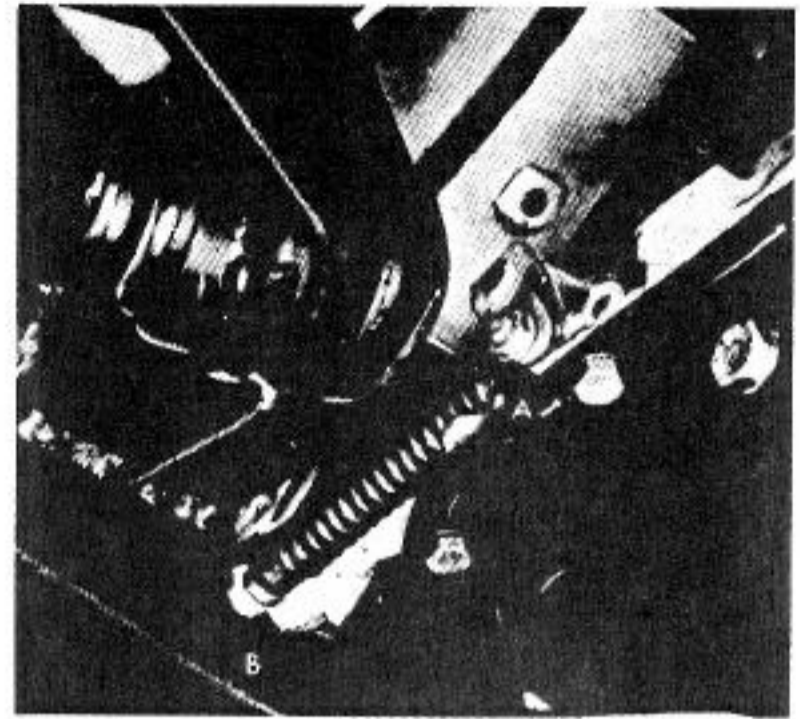

Fig. 12-2. Cable connection at transmission. The clamp nut is at arrow **A**, the retaining nut at arrow **B**.
2. Loosen the clamp nut shown at arrow **A** in Fig. 12-2. Detach the cable.
4. Push away the rubber boot and remove the retaining nut (arrow **B** in Fig. 12-2). Push the cable forward out of the subframe.